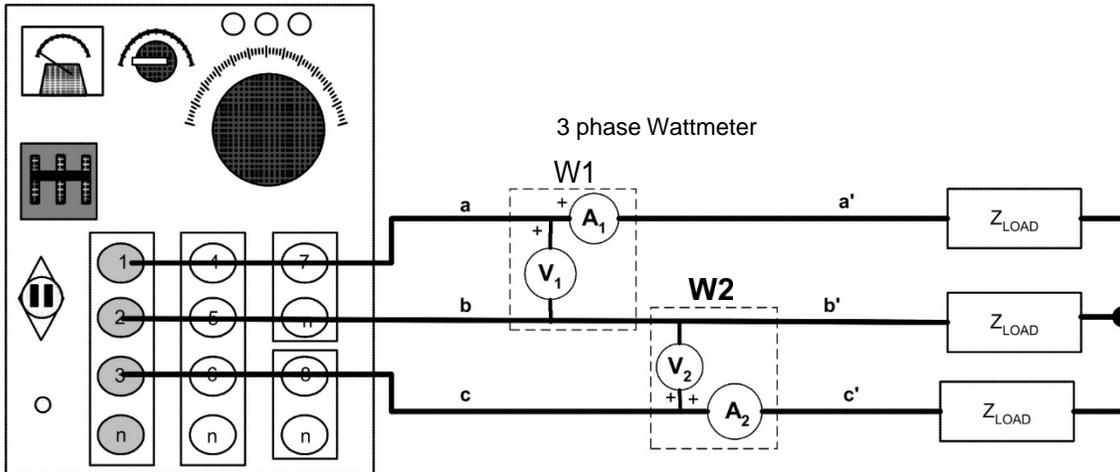

FIGURE 3.4
The three-phase power measures in the machine lab are going to be calculated digitally. Two ac ammeters and two ac voltmeters are needed for the two-wattmeter method. See Figure 3.4 and preview the connections for the two power readings. Polarity-marked shown are very important to make the correct calculation of power. Once the connection is made, the computer can calculate the real, reactive and apparent power.
- 3) Use the appendix information on the power supply and three-phase wattmeter to analyze the circuit shown in Figure 3.4 if: